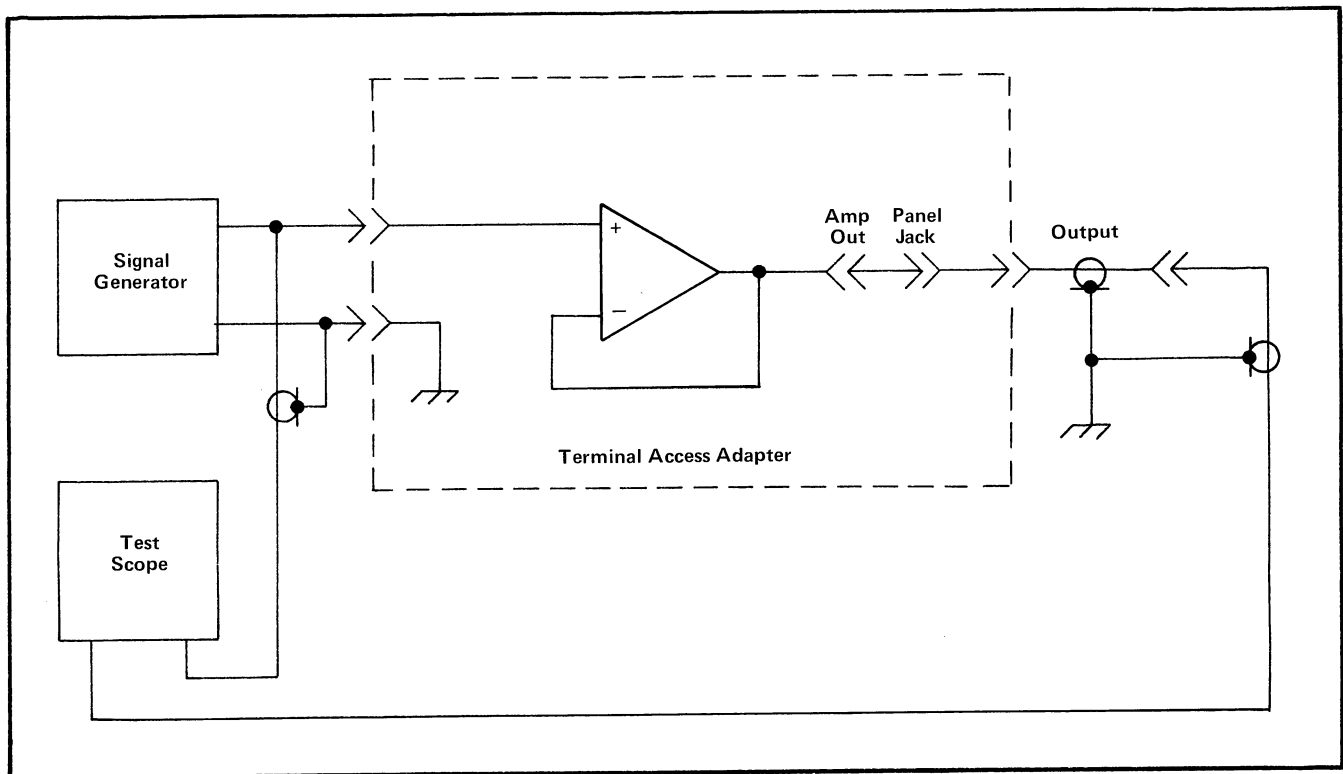

Fig. 5-1. Setup for measuring Common-Mode Rejection Ratio.
a. Connect the Terminal Access Adapter as diagramed in Fig. 5-1.